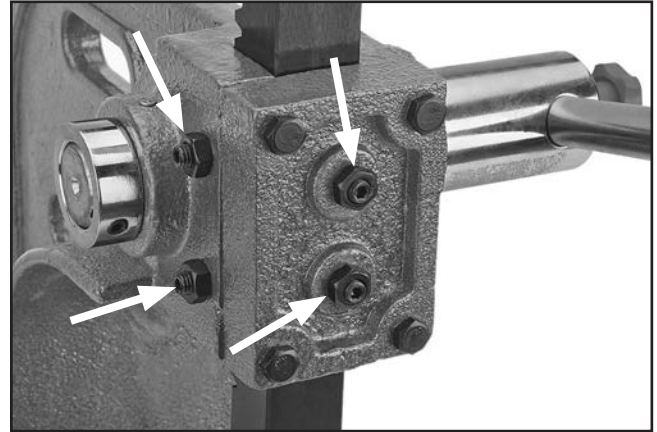

Figure 12. Ram free-play adjustment controls.
Set screws on the front and left side of the ram housing (see **Figure 12**) adjust the amount of ram free-play. The ideal adjustment allows the ram to move with very little play but not be overly stiff.
1. Loosen hex nuts on set screws shown in **Figure 12**.